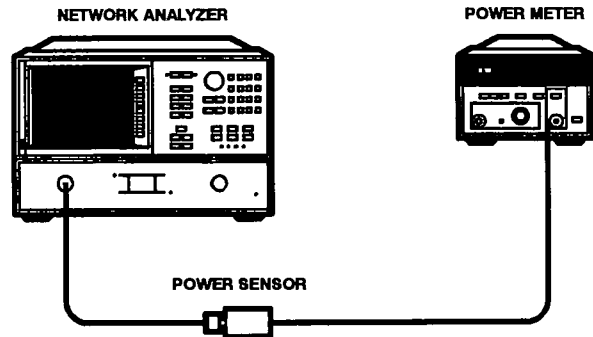

Figure 4–5. Power Level Test Setup
2. Connect the power sensor to port 1 of the analyzer as shown in Figure 4–5.